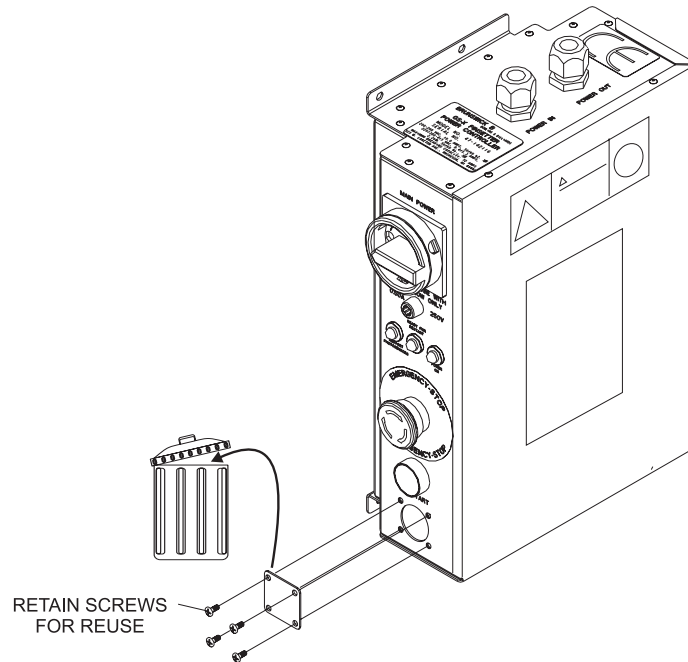

Figure 2
1. Remove and discard cover plate from safety controller and retain all screws for re-use. Refer to Figure 2.